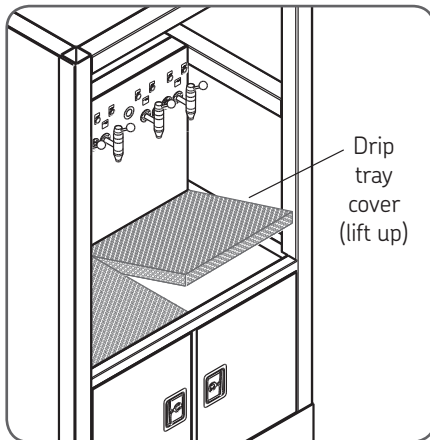

Fig 38 Removing drip trays
- Remove drip-pans from beneath the faucets, clean the entire grate and flush the pan. See figure 38.